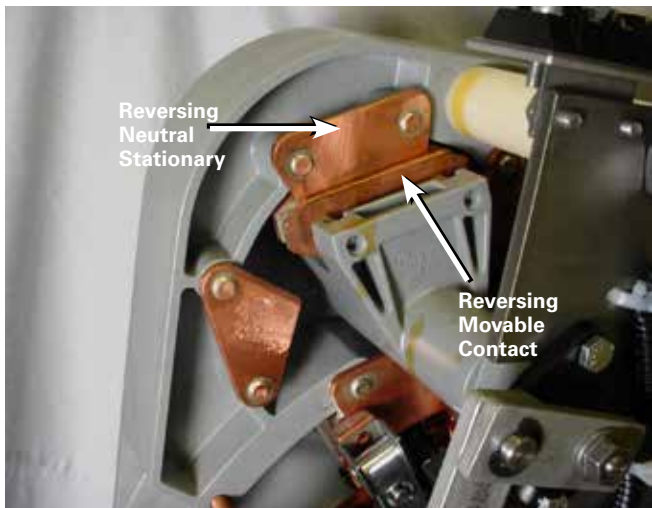

Figure 102. Neutral position for reversing movable.
- B. The reversing movable contact is located on the reversing neutral stationary contact. See Figure 102.